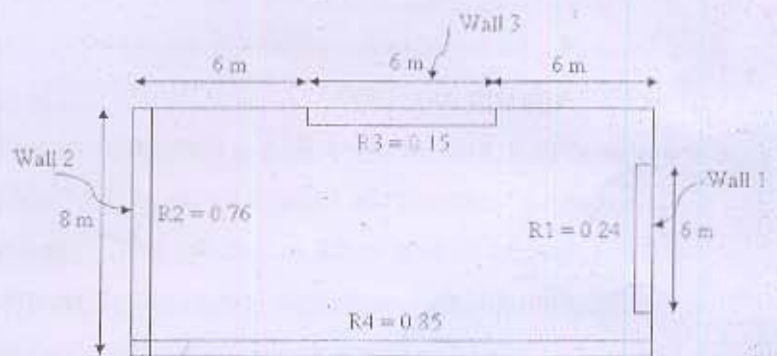

Figure 3
- (b) Calculate the torsional shear forces in a one-storey shear wall masonry structure with a rigid diaphragm roof for the following data. There are four shear walls, with relative rigidity of each wall is as shown in **Figure 3**.